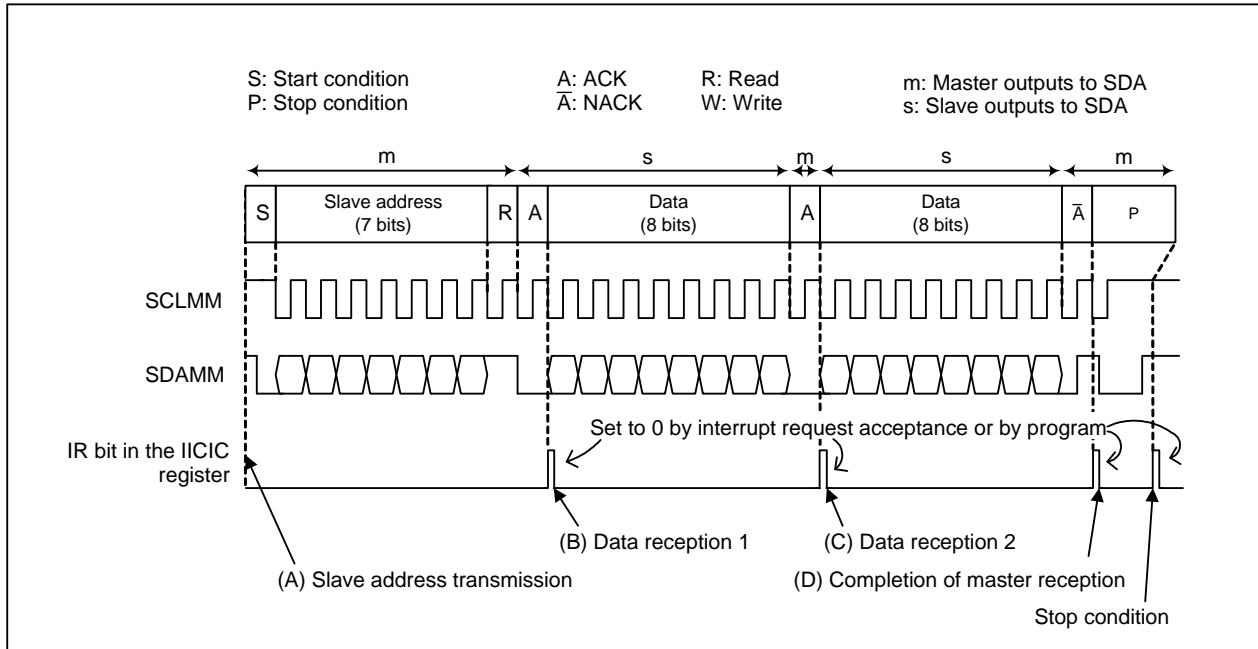

Figure 25.18 Example of Master Reception
Master reception is described in this section. The initial settings described in 25.3.10.1 “Initial Settings” are assumed to be completed. Figure 25.18 shows the operation example of master reception. The following programs (A) to (D) are executed at (A) to (D) in Figure 25.18, respectively.